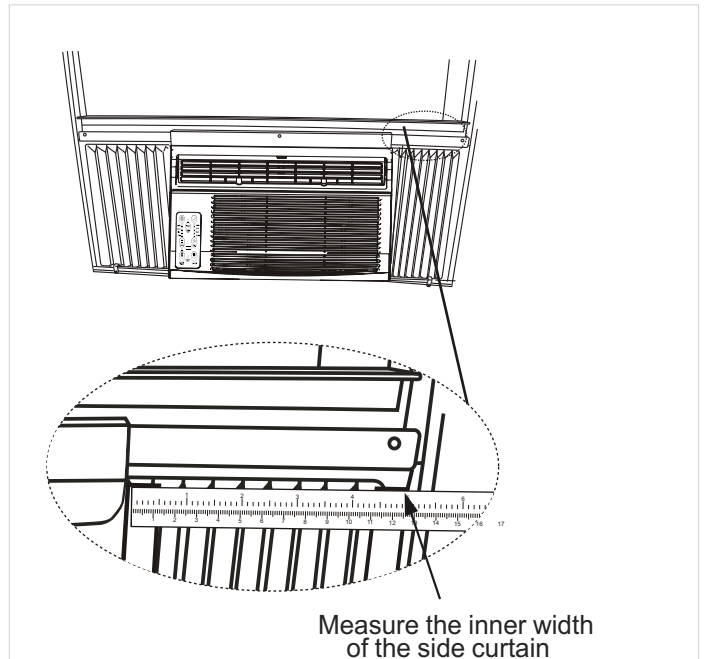

Fig.11
NOTE: If storm window blocks AC, see Fig. 11.
Step 1. After the unit is installed to the window, measure the inner width of the side curtain as shown (Fig.11).